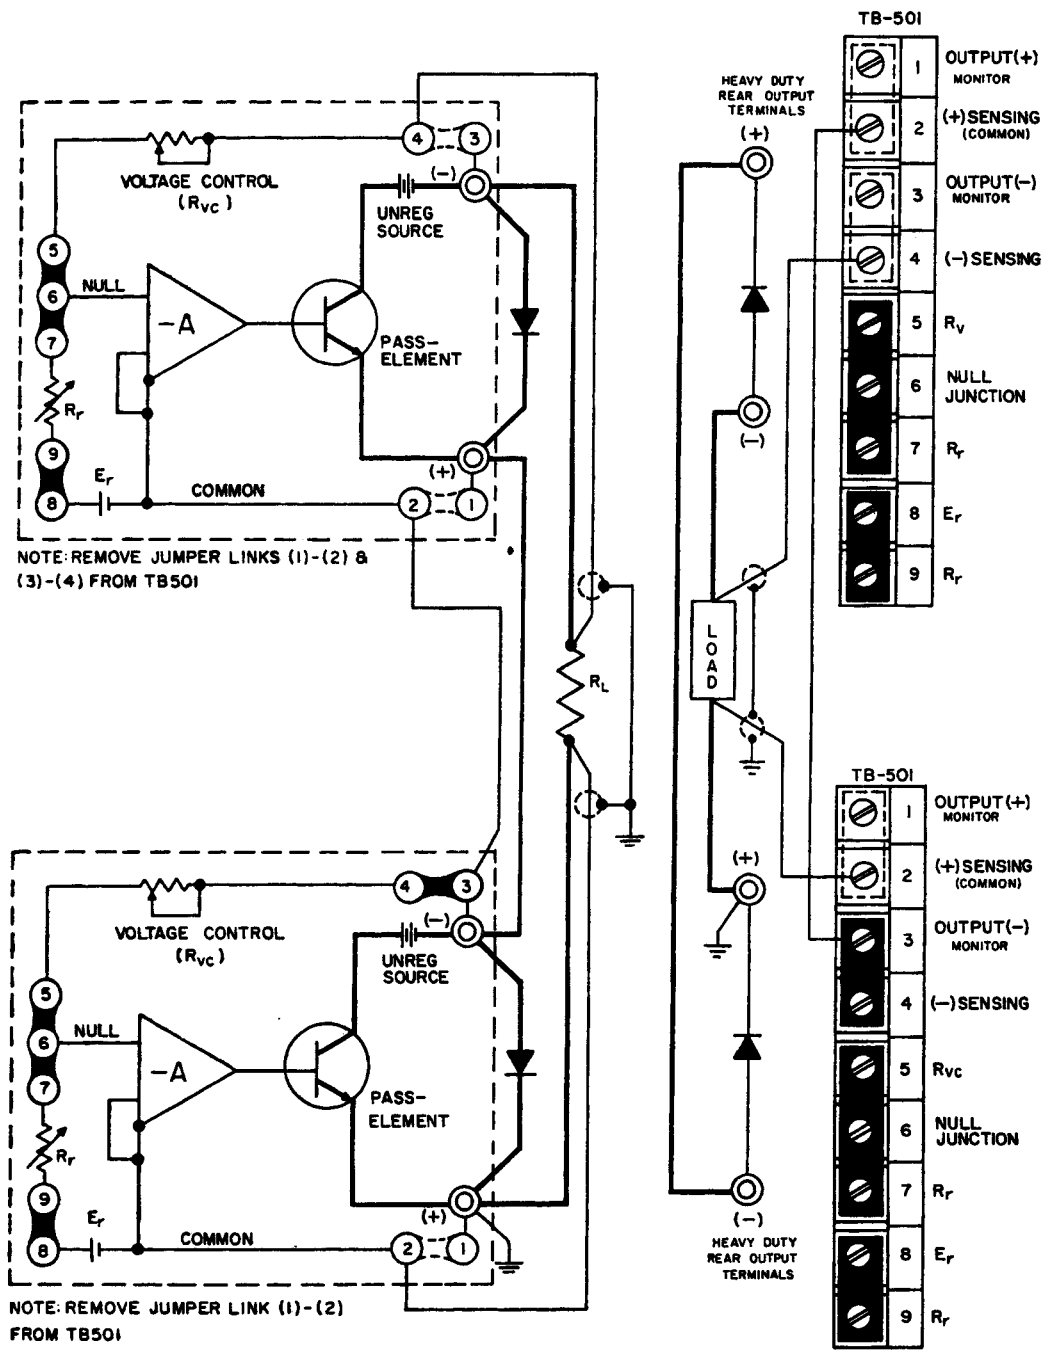
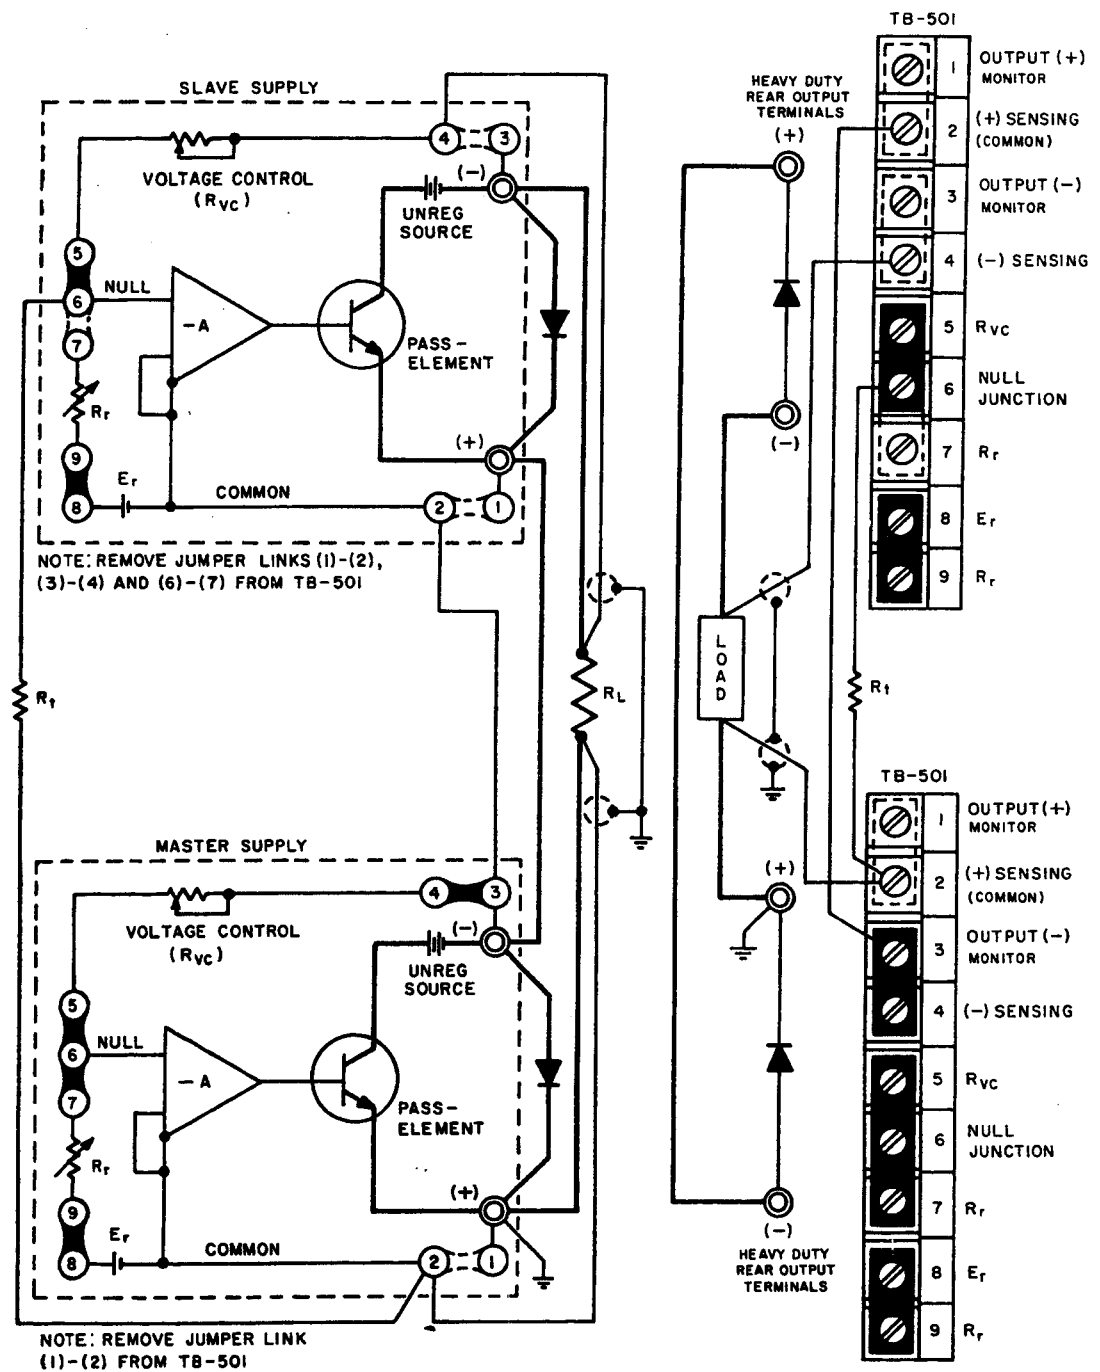

FIG. 3-10 AUTOMATIC SERIES CONNECTION OF KEPCO POWER SUPPLIES
FIG. 3-11 MASTER-SLAVE SERIES CONNECTION OF KEPKO POWER SUPPLIES
3-35 GENERAL. Kepco Power Supplies can be series-connected for increased voltage output, provided the specified limits on voltage to chassis are not exceeded. When series-connected, the supplies should be protected by means of a semiconductor diode across the output terminals of each power supply, as shown in FIG. 3-10. The peak inverse rating of these diodes must be at least as large as the output voltage of the supply to which they are connected. The continuous current rating of the diodes should be at least as great as the largest short-circuit current of the interconnected supplies.
3-36 Two basic series connection methods are generally used, the "Automatic Series Connection", as illustrated in FIG. 3-10, and the "Master-Slave" connection, shown in FIG. 3-11. The basic difference between these two alternate methods lies in the manner of the output control. While in the "Automatic" connection the outputs of both supplies may be controlled individually, in the "Master-Slave" connection, control is exercised from the "Master" supply alone, while the "Slave" supply follows the master command in a ratio which may be pre-determined by the user. The latter method of series operation is therefore frequently termed "Automatic Tracking".
- a) Connect load as shown in FIG. 3-10. Keep voltage drop in load wires as low as practical by using heavy gauge wire.
3-38 The "Master-Slave" series connection method is illustrated in FIG. 3-11. As seen from the figure, the reference voltage (E_r) of the "Slave" supply is disconnected and its input or null junction is connected to the output of the "Master" supply via the tracking resistor (R_t). The "Slave" supply output is thus completely dependent on the "Master" output voltage:
- a) Connect load as shown in FIG. 3-11. Keep voltage drop in the load wires as low as possible by using heavy gage wire.
- c) Remove jumper links as shown (FIG. 3-11) and connect error sensing leads if remote sensing is desired. Sensing leads should be twisted and shielded.
- d) Select value of the tracking resistor (R_t) and connect with shielded wire as shown (FIG. 3-11).